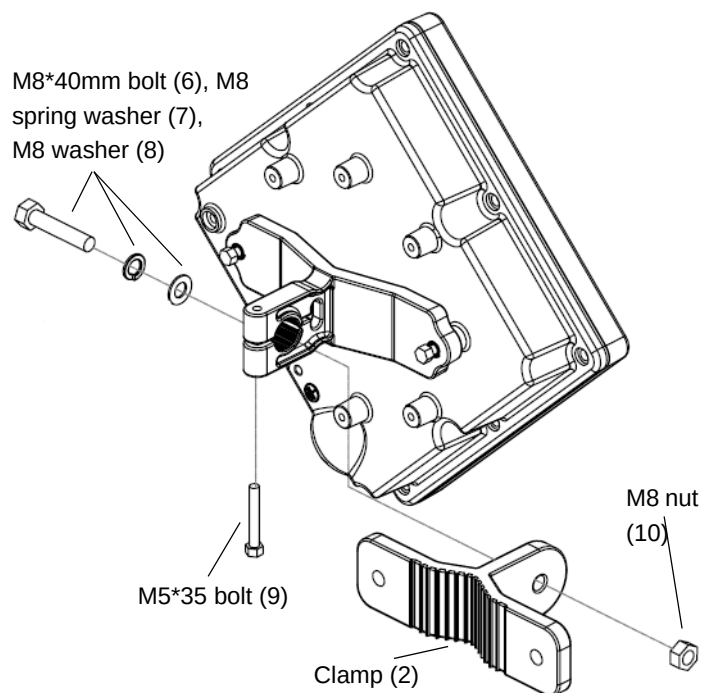

Figure 6: Assembling the Clamp
- 2 Thread the M8*40mm bolt (item 6) through an M8 spring washer (item 7) and an M8 flat washer (item 8) and then through the bracket's hole, as shown in Figure 6.
- 3 Thread the M5*35mm bolt (item 9) through the designated hole in the bracket, as shown in Figure 6.